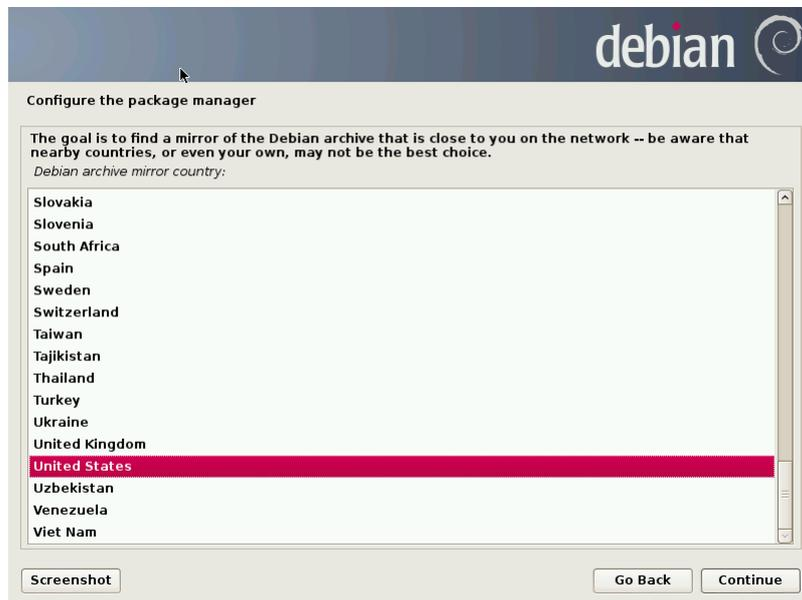

Fig. 58: Select debian package archive mirror
- Choose the debian archive mirror country (Fig. 58), server and HTTP proxy. Debian mirror is used to update installed debian system packages or install additional packages. This will only work when the computer will be connected to the Internet. Please consult the HTTP proxy settings with your network administrator.